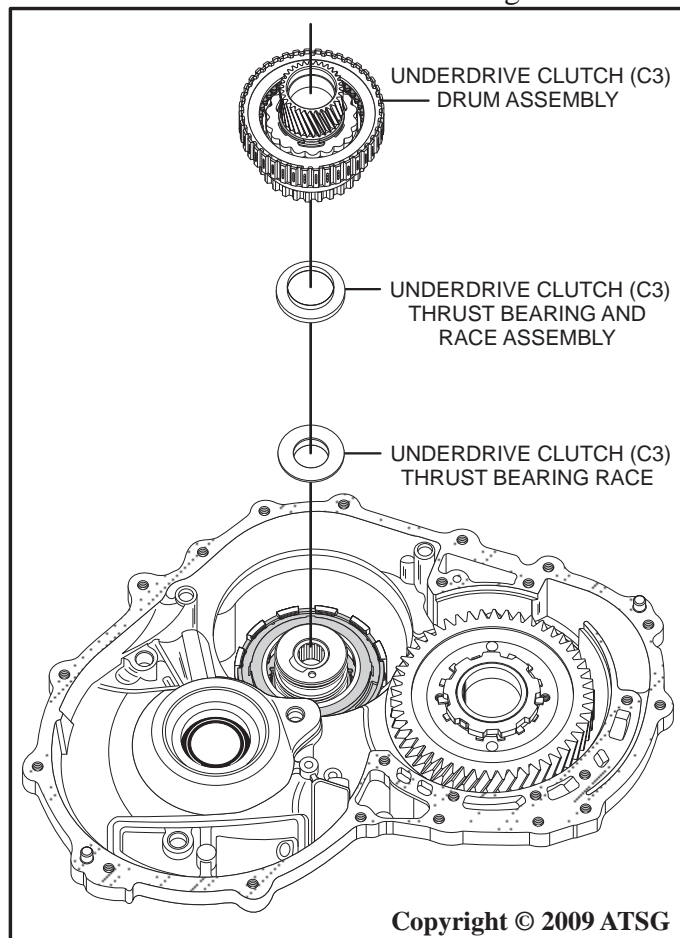

Figure 38
51. Remove the underdrive clutch (C3) drum assembly from the case by lifting straight up as shown in Figure 38.
52. Remove the underdrive clutch (C3) thrust bearing and race assembly, and the underdrive clutch (C3) thrust bearing race as shown in Figure 38.